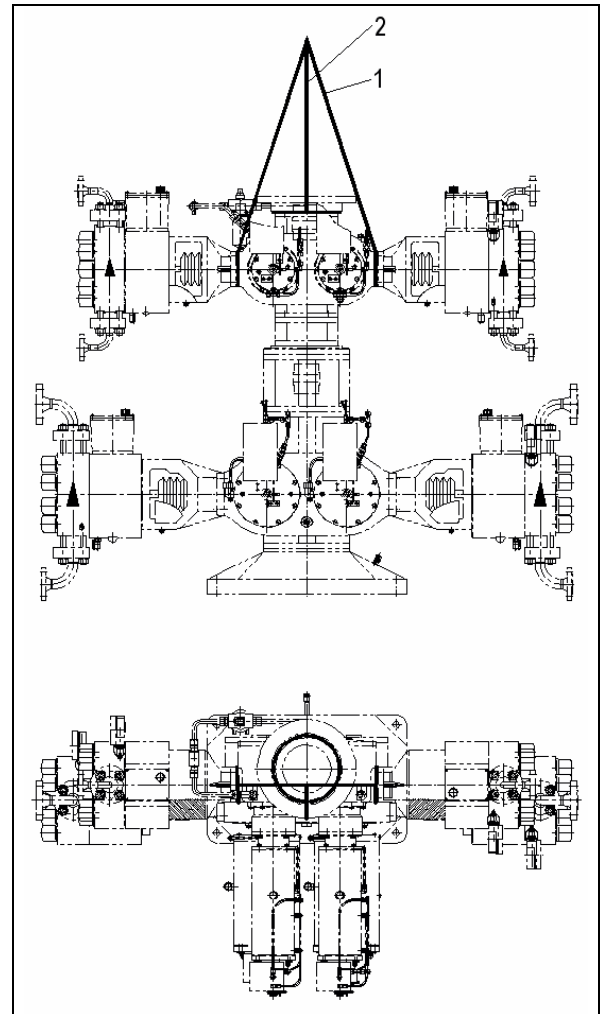

Fig. 8.19: Lifting suggestion with transport ropes
Loop two transport ropes around the upper gear unit housing. Place sling tight against the housing at both sides (area of flange connection to pump yoke) and tighten. *See Figs. 8.19 & 8.20, item 1*
Attach transport rope in a loop around the motor connection flange and lead upwards at the front of the gear unit. *See Figs. 8.19 & 8.20, item 1*
The arrangement shown in Fig. 8.19 allows the pump to be lifted close to the centre of gravity and transported.